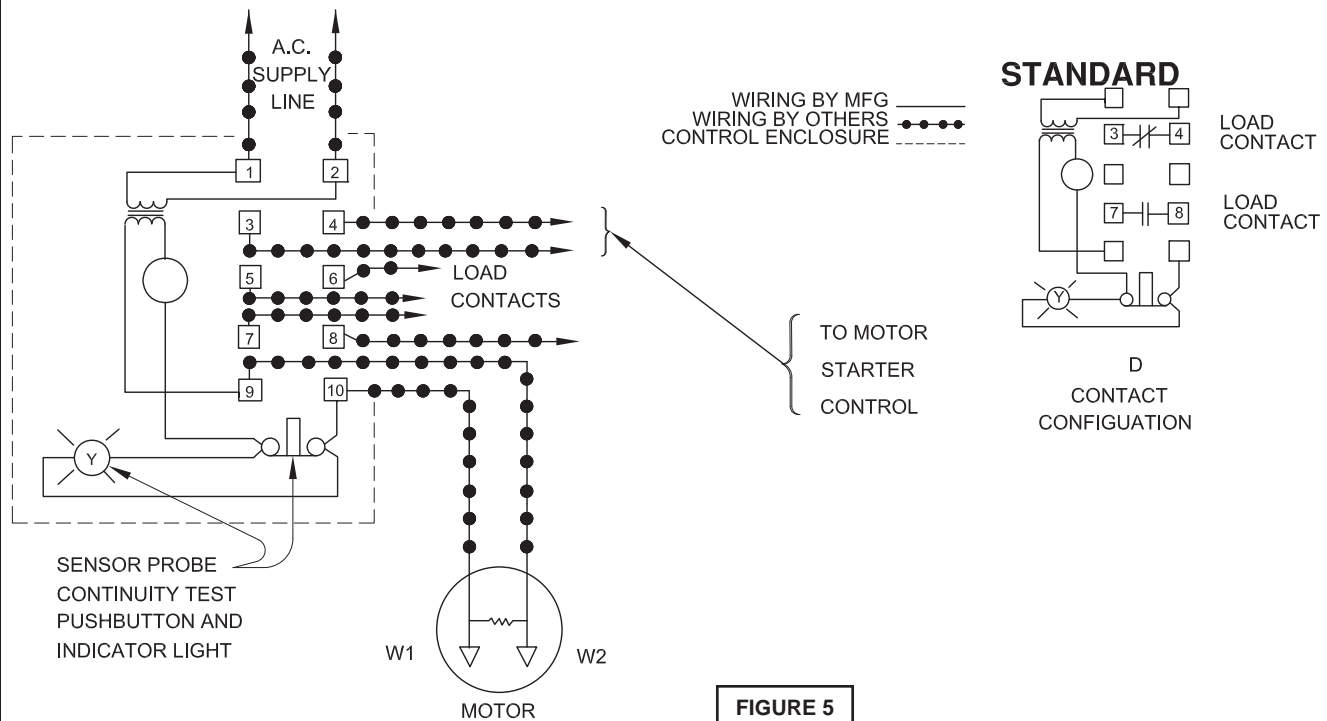

FIGURE 5
- c. A moisture detection circuit with continuity test circuit (see Figure 5)
To expose outer shaft seal (4) for examination, remove Impeller and Volute per Section F-1.1. Set motor assembly (1) in the inverted position to prevent loss of oil. Remove snap ring from motor shaft, then retaining ring (5), spring (4C) and rotating member (4B) from shaft. See Figure 5 Examine all seal parts and especially contact faces. Inspect seal for signs of wear such as uneven wear pattern on stationary members, chips and scratches on either seal face. **DO NOT** interchange seal components, replace the entire shaft seal (4). If replacing seal, remove stationary (4A) from mounting plate by prying out with flat screw driver.